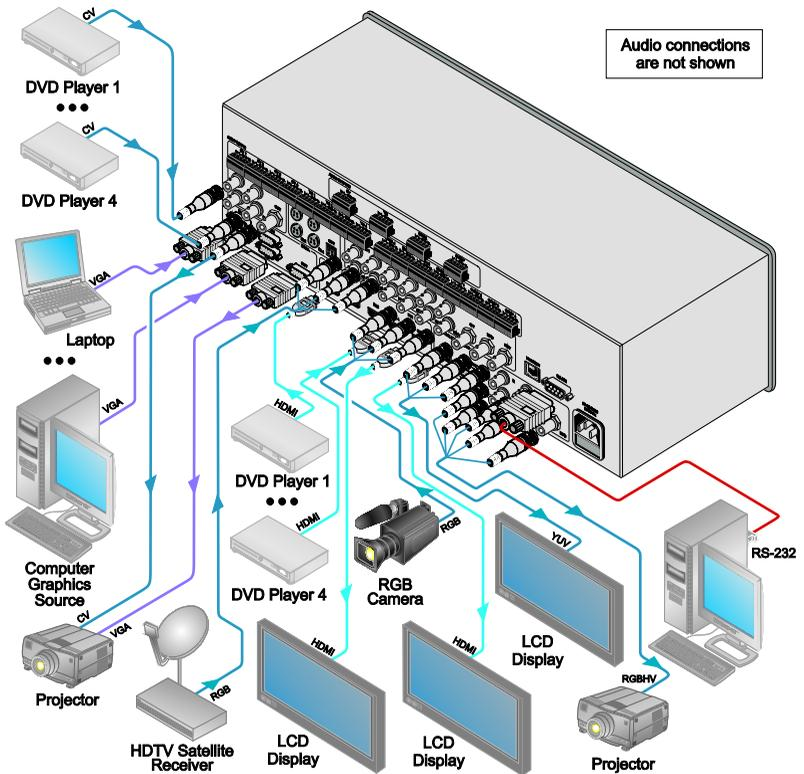

Figure 3: Connecting to the VP-725NA Presentation Switcher/Scaler
To connect the **VP-725NA**, connect the following to the rear panel, as the example in Figure 3 illustrates:
- Up to four s-Video sources to the 4-pin input connectors (not illustrated in Figure 3)
- Connect the UXGA connector to the UXGA acceptor, for example, a monitor (not illustrated in Figure 3)
8. Connect the power cord (not illustrated in Figure 3).